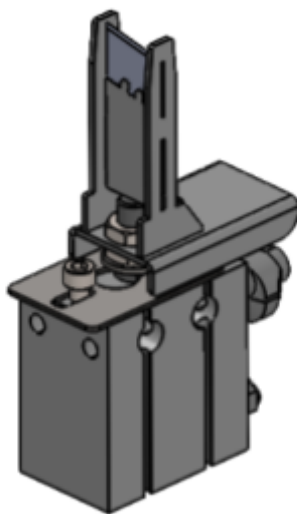

Figure 12
Step 6: Slide a new knife into the holder and hold the locking plate upwards to hold the knife in place. Now turn the knife holder back onto the cylinder (figure 12 and step 4) and the knife will lock into place again.